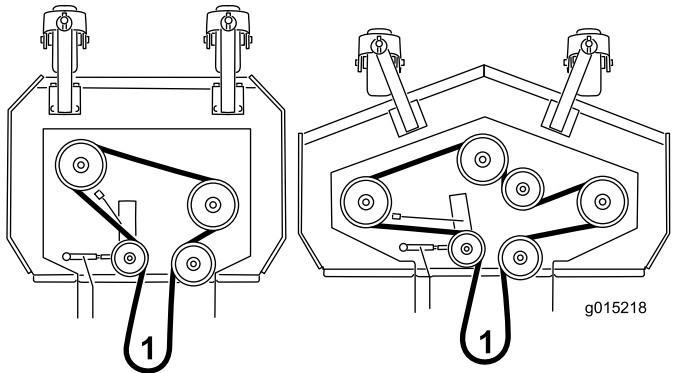

Figure 5
6. Check the deck drive belt routing (Figure 5); refer to the Adjusting the Mower Belt Tension section in the traction unit *Operator's Manual* to adjust the deck drive belt.